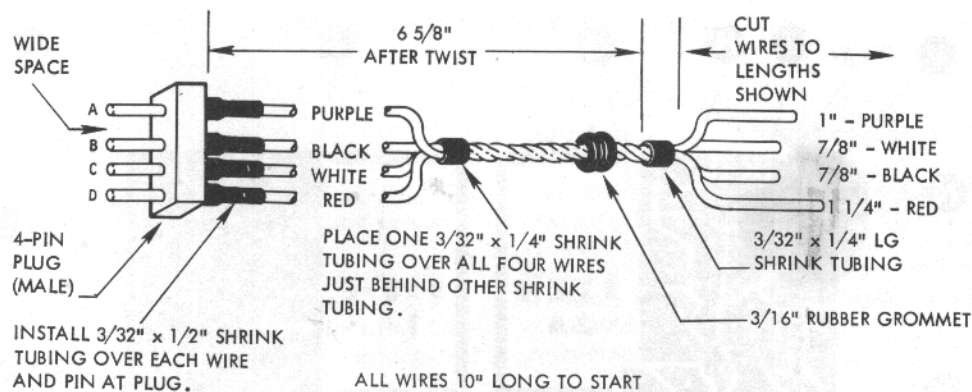

Figure 6. Servo Cable Assembly
- 50. Insert .031" solder into cavity of pin "A" of plug (see figure 6). Apply tip of soldering iron to upper side of pin until solder melts and fills cavity. No overflow, please.
- 55. Slide 3/32" x 1/4" shrink tubing over wire ends. Position 6-5/8" from plug as shown in figure 6. Apply heat to shrink in place.
- 57. Untwist ends of wires beyond shrink tubing. Cut each wire to length shown (figure 6). Strip 3/32" from end of each wire, and tin the ends.